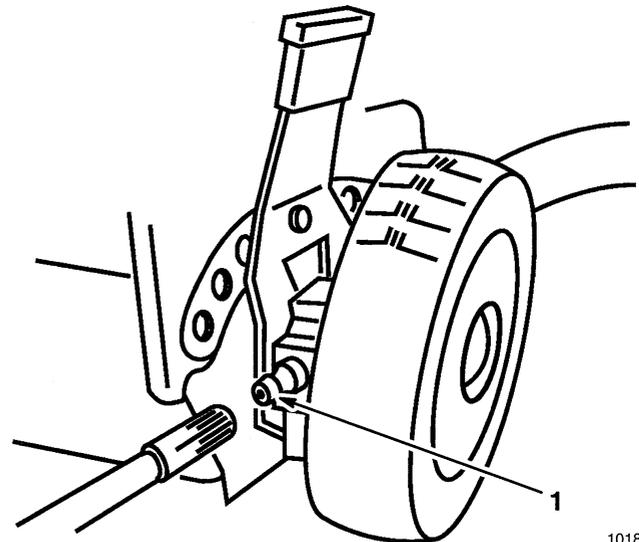

Figure 25
1. Wipe grease fittings on rear height-of-cut adjustors (Fig. 25) with a clean rag.